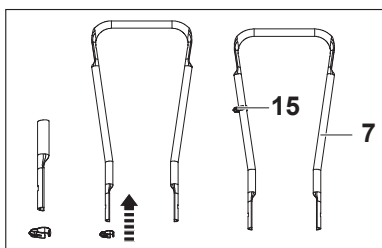

Fig. 1
1. Attach the cord clip (15) on the middle handle bar (7) (Fig. 1).